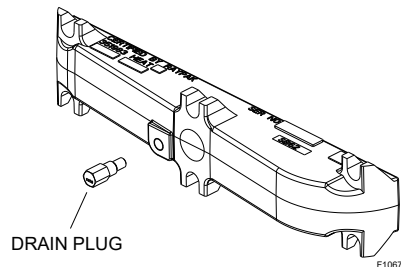

Figure 53. Return Header Drain Valve
3. Remove the heat exchanger inspection panel on the side opposite water piping to gain access to the drain plug on the return header. Open drain plug on return header. See **Figure 53**.